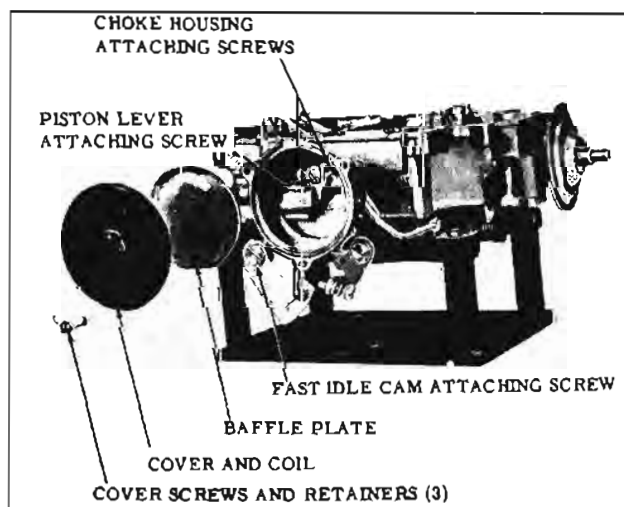

Fig. 9-175 Choke Assembly and Fast Idle Cam
1. Remove the fast idle cam attaching screw. (Fig. 9-175)